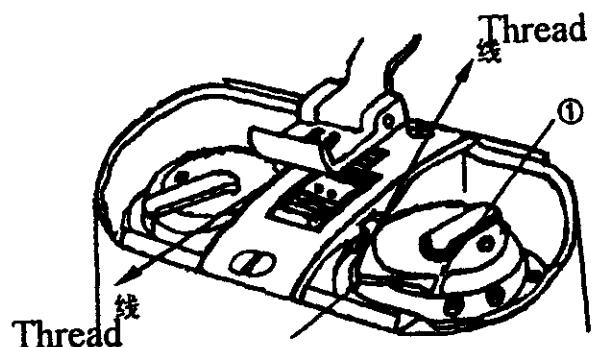

Fig. 7
12、How to lead the lower thread (Fig.7、Fig.8):
(1) As shown in fig.7, from the slit (1) pass the thread underneath the hook body, and pull it to the right diagonally, and thread will pass through the tension spring (single needle); From the slit (1) pass the thread underneath the hook body, and pull the left thread to the left and the right thread to the right diagonally, and thread will pass through the tension spring (double needle).